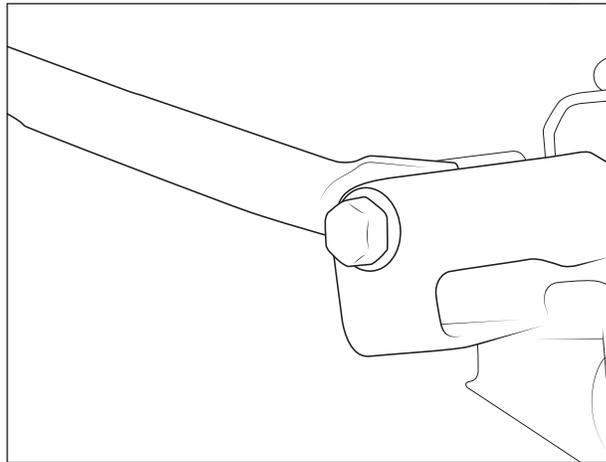

Figure 14
- On **2007-2010** models only, loosen but DO NOT remove the frame-side track bar bolt. Remove and save the axle-side track bar bolt and flag nut (Fig. 14).